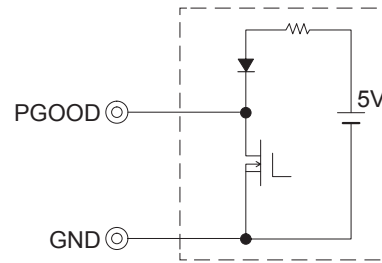

Fig.4.10 Internal PGOOD circuit
■ PGOOD circuit is designed as shown in Fig.4.10.